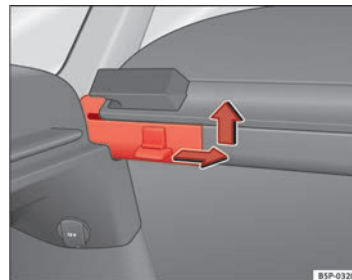

Fig. 122 Removing the rear shelf
- Press the side pin in the direction of the arrow, lift the cover and remove it. ⇒ Fig. 122